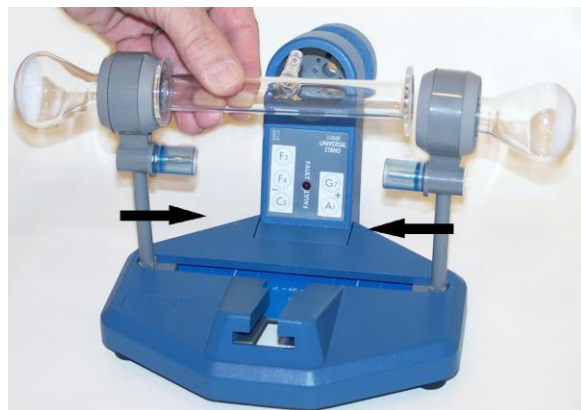

Fig. 3
- Insert the glass tube into the holders. In order to ensure that the glass tube is firmly held in place, push the holders slightly towards the centre (see Fig. 3).